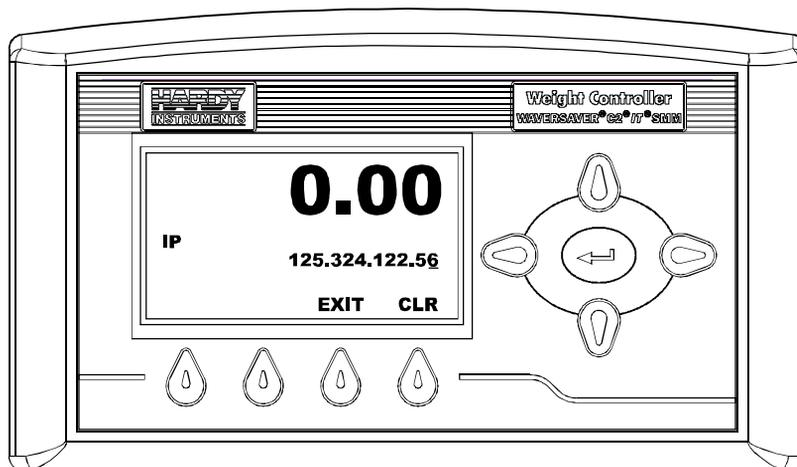

FIG. 110 ETHERNET MENU
Step 4. Press the Enter button. The IP Menu appears. (See Fig. 110)